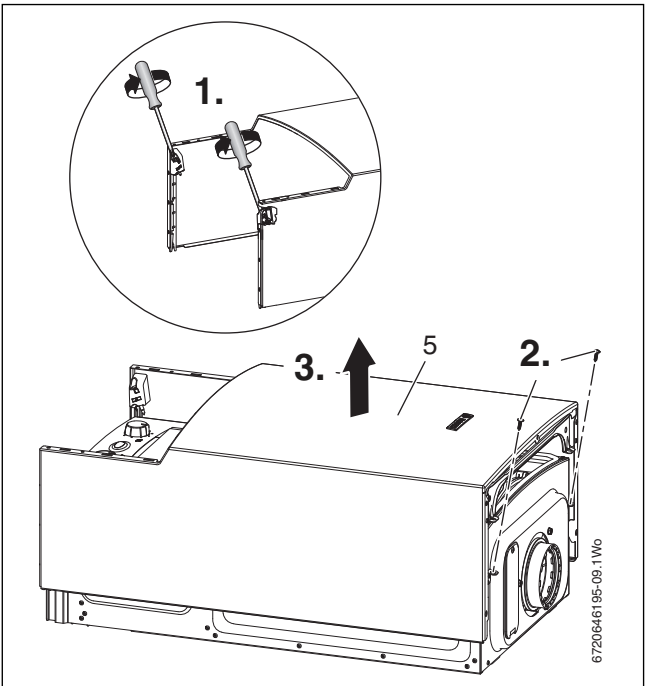

Fig. 25 Outer case removal
2. Undo the two screws at the top (see figure 25).